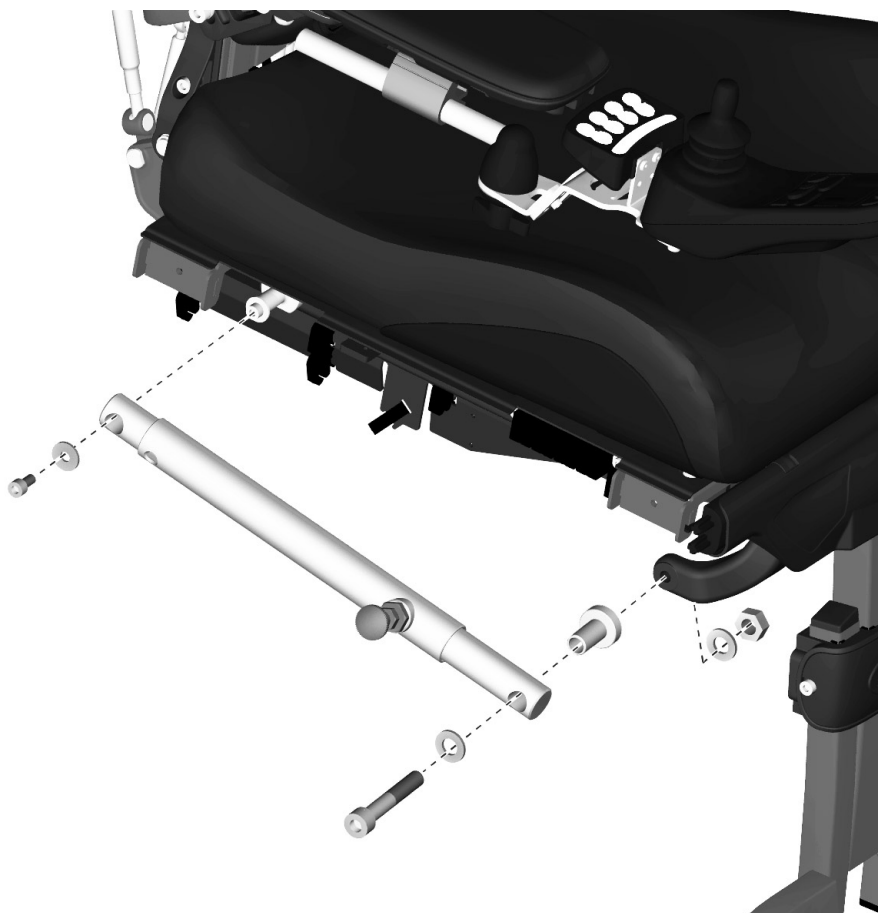
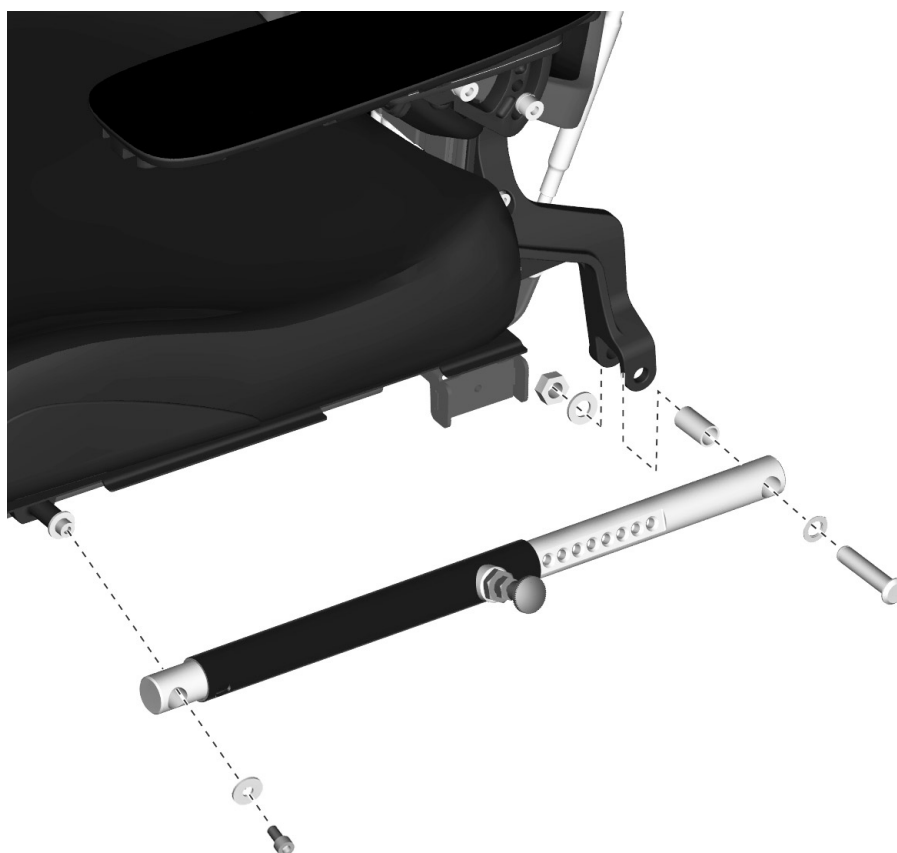

Figure 205. The manual legrest adjustment unit is held in place by two screws.
Figure 206. The manual backrest adjustment unit is held in place by two screws.
3. Remove the lock nut from the front bracket of the adjustment unit. See fig. 205.
4. Remove the adjustment unit, which is held in place by two screws. See fig. 205.
1. Fit the rear fixing screw (M6x12) and washer for the adjustment unit. See fig. 205. Tighten the screw using a torque wrench. **Tightening torque 9.8 Nm / 7.2 Ft/lbs.**
2. Fit the front fixing screw (M10x60), spacer and washer for the adjustment unit. See fig. 205. Tighten the screw using a torque wrench. **Tightening torque: 24 Nm / 17.7 Ft/lbs.**
3. Fit the lock nut and washer on the front bracket of the adjustment unit. Hold the screw to counteract rotation while tightening the nut. Tighten the nut using a torque wrench. **Tightening torque: 24 Nm / 17.7 Ft/lbs.** See fig. 205.
3. Hold the backrest in a steady grip as you remove the manual adjustment unit. Remove the nut, washer and screw from the rear bracket of the adjustment unit. See fig. 206. Once the rear bracket has been removed the backrest can be angled forward to rest on the seat cushion.
4. Remove screw and washer from the front bracket of the adjustment unit. See fig. 206.
1. Assemble the front end of the adjustment unit with the screw and washer. **Tightening torque 9.8 Nm / 7.2 Ft/lbs.** See fig. 206.
2. Fit the rear fixing screw, spacer and washer for the adjustment unit. Tighten the screw using a torque wrench. **Tightening torque: 24 Nm / 17.7 Ft/lbs.** See fig. 205. See fig. 206.